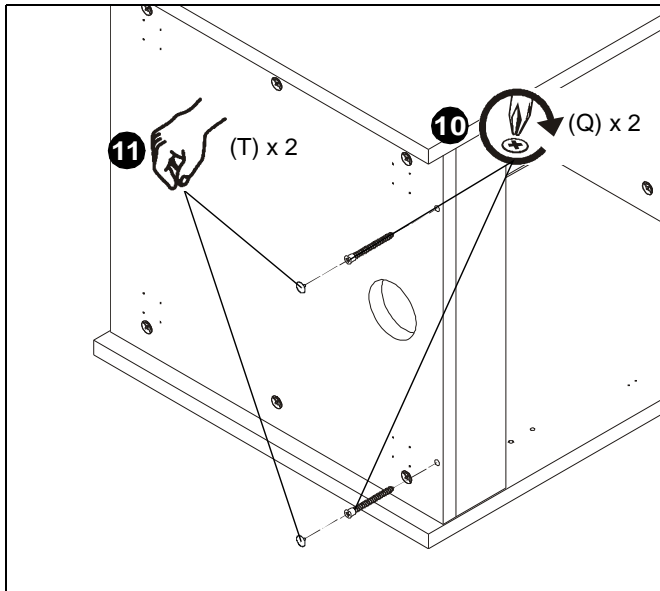

Figure 5
10. Use two M7x70mm confirmat screws (Q) to secure back support (F) to rack bottom (D). (See Figure 5)
11. Press two caps (T) onto two confirmat screws (Q). (See Figure 5)